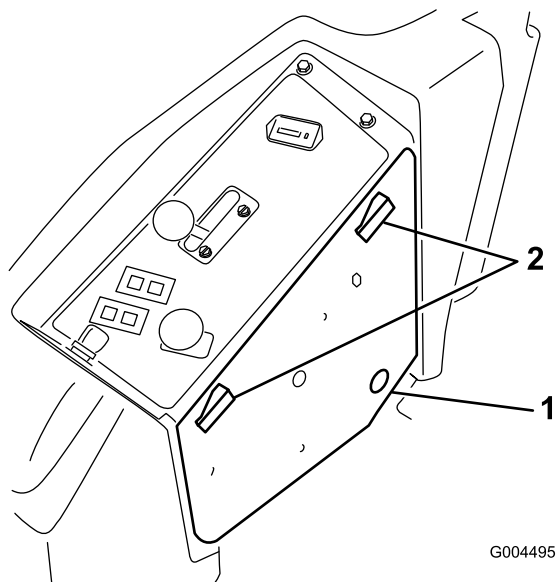

Figure 26
2. Unlatch the control panel cover and lay it to the side (Figure 26).